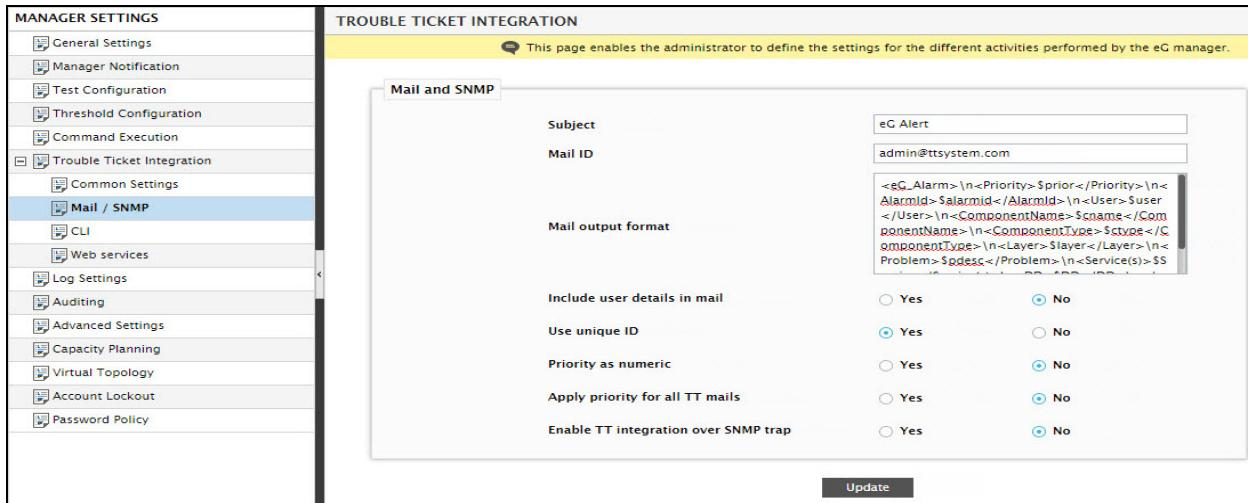

Figure 3.3: Enabling TT integration over SNMP traps
2. When Figure 3.3 appears, expand the **Trouble Ticket Integration** node in the **MANAGER SETTINGS** tree-structure in the left panel, and select the **Mail / SNMP** sub-node within.